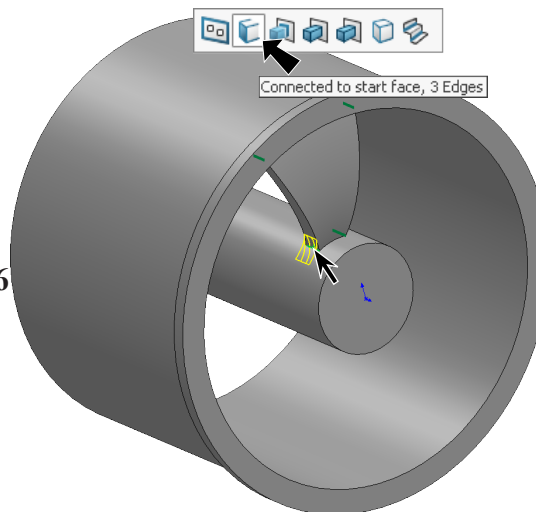

Fig. 17
- Step 1. Rotate view to get better view of spoke, hold down middle mouse button (wheel) and drag to rotate view, **Fig. 17.**
click **corner of spoke at center revolved body**, **Fig. 17**